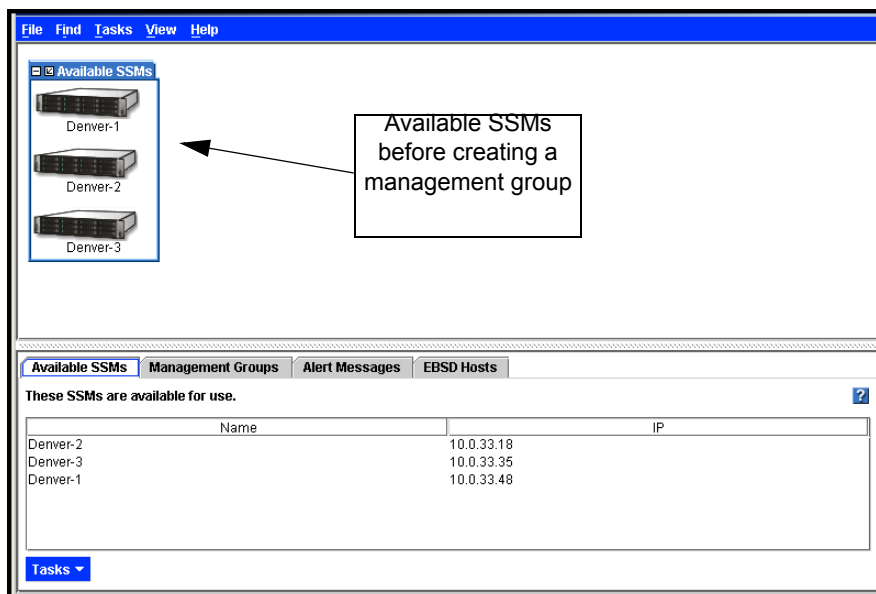

Figure 126. Viewing SSMs Before Creating a Management Group
1. Open the Console. If you have not created a management group, but you have some SSMs on the network, the Console displays those SSMs as available. See Figure 126.